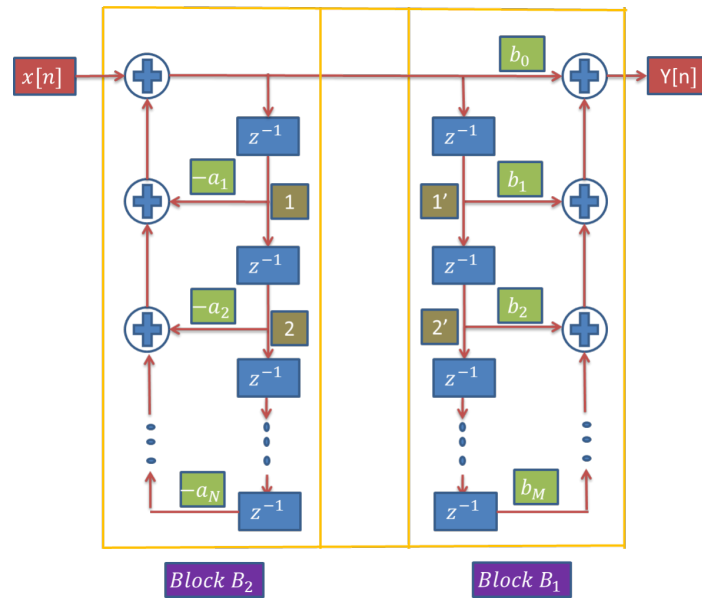

Figure 2: Block diagram obtained by exchanging the positions of blocks B_1 and B_2
- Let's change the order of operations so that, the two blocks B_1 and B_2 exchange their positions. As a result, we get the block diagram in Figure 2.
- At this point, look at the block diagram in Fig. 2 and think on how you can reduce the total buffer space required to implement the same system. Take help from your TA/RA, if required. Once you have figured it out, read further.